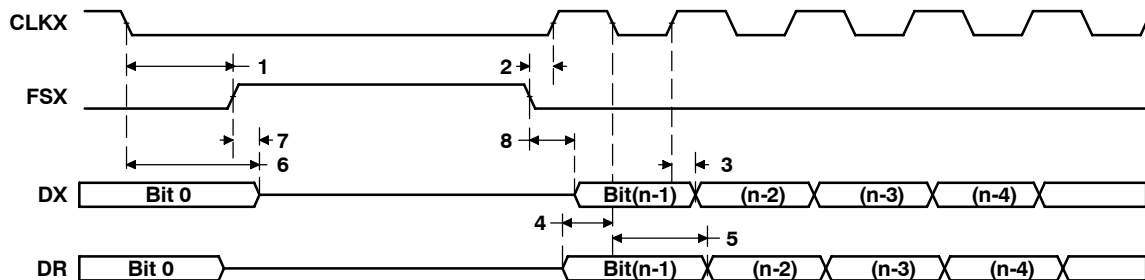

Figure 34. McBSP Timing as SPI Master or Slave: CLKSTP = 10b, CLKXP = 0
**timing requirements for McBSP as SPI master or slave: CLKSTP = 10b, CLKXP = 0†‡ (see Figure 34)**
(see Figure 34)